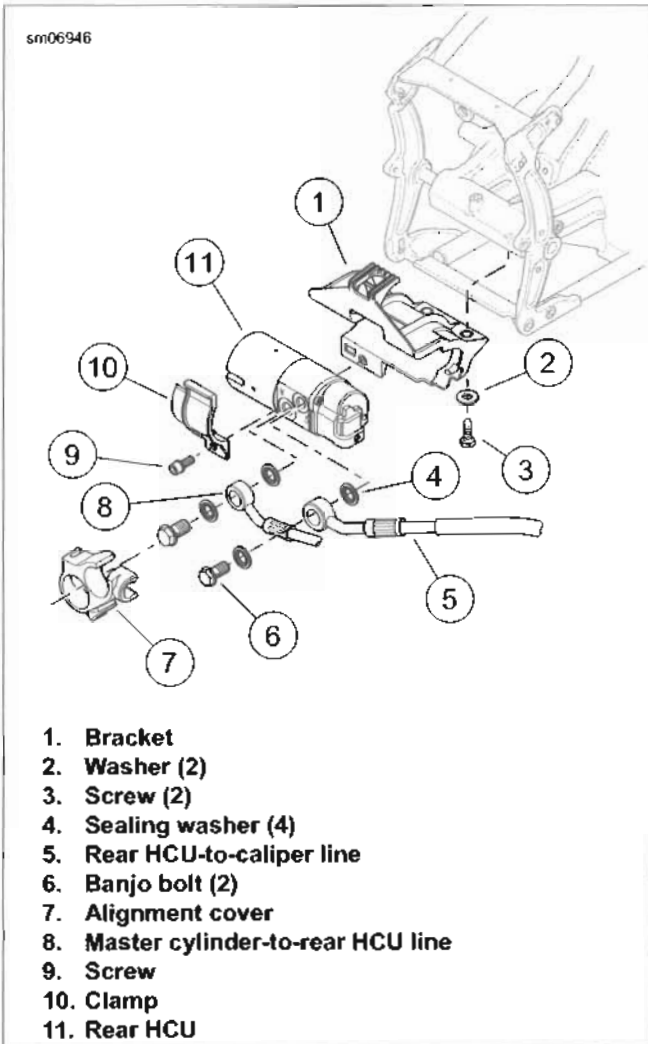
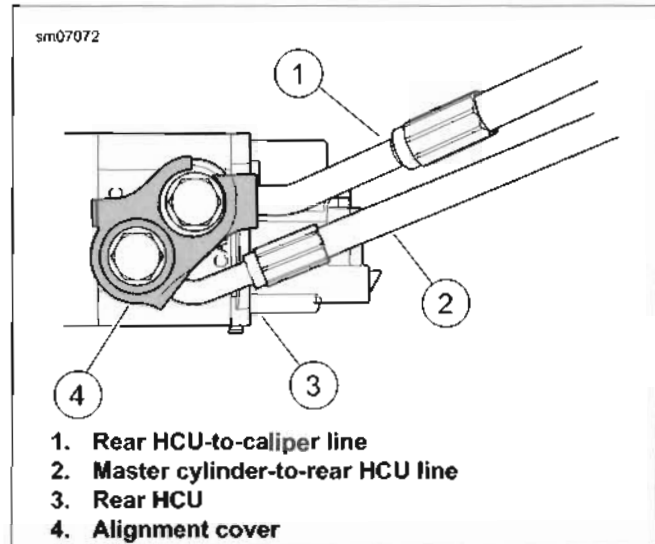

Figure 2-72. Rear Hydraulic Control Unit (HCU)
Figure 2-73. Rear HCU Fittings Properly Installed
4. See Figure 2-72. Remove banjo bolts (6) to release brake lines from rear HCU. Discard sealing washers.
5. Remove screw (9), clamp (10), and rear HCU (11).
1. See Figure 2-72. If bracket (1) was removed, install bracket with washers (2) and screws (3). Tighten screws to 36-72 **in-lbs** (5.0-10.0 Nm).
2. Install rear HCU, and secure with clamp (10) and screw (9). Tighten screw to 24-42 **in-lbs** (2.7-4.7 Nm).
3. Attach electrical connector to rear HCU (11).
4. Loosely install banjo bolts (6) with **new** sealing washers (5).
5. Install alignment cover (7) over banjo bolts.
7. See Figure 2-73. Verify both brake lines at rear HCU are properly positioned.